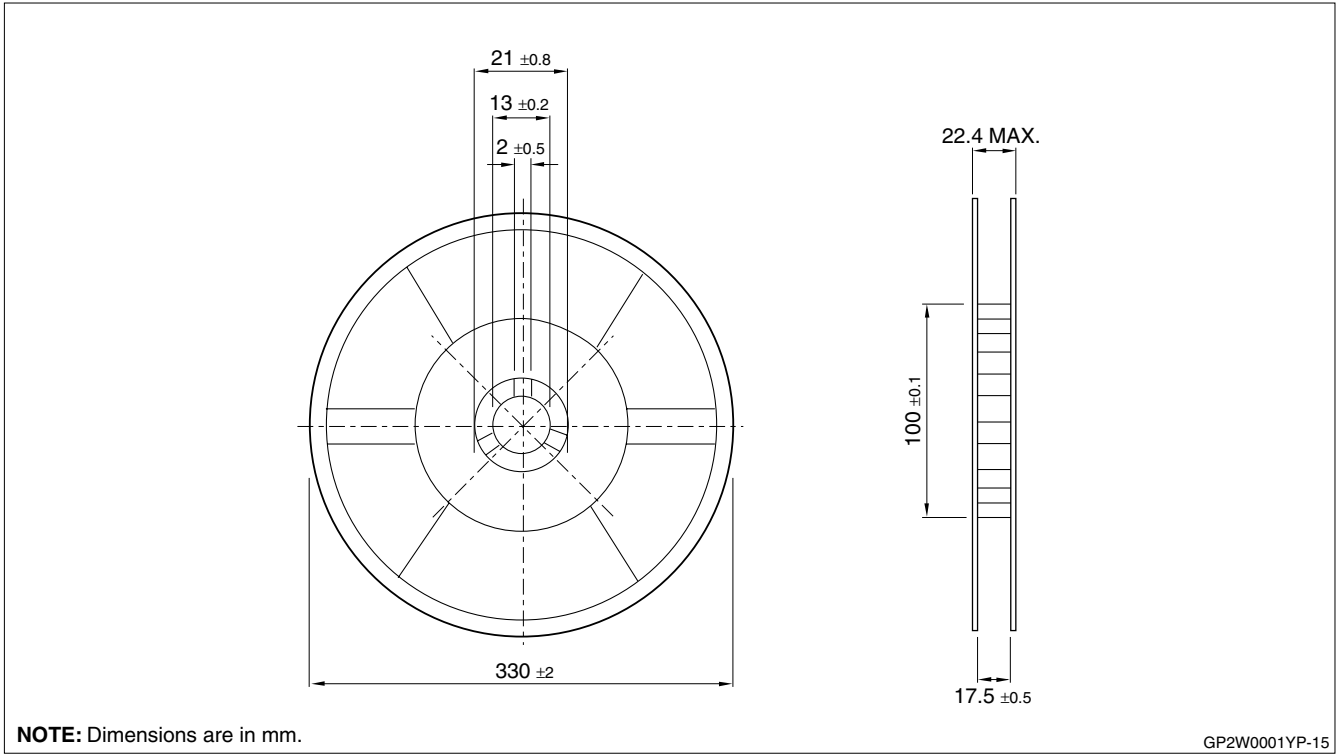

Figure 15. Reel Structure and Dimensions
- Reel structure and dimensions: The taping reel should be conductive plastic with its dimensions as shown in Figure 15.